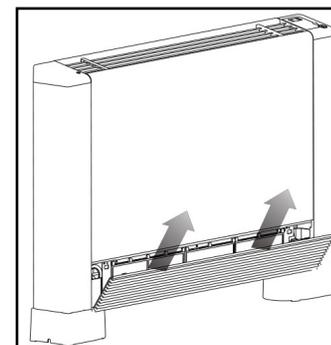

Figure 24 - Lifting Out the Grill
3. Lift out the grill (Figure 24). Remove it and set it aside (Figure 25).